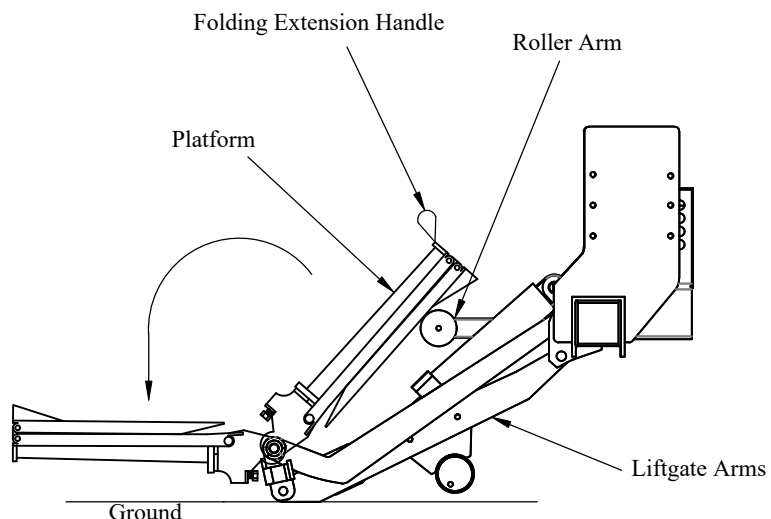

Figure 4: Step 6.
6. With the liftgate arms touching the ground, stand off to the side, and unfold the platform (Figure 4).